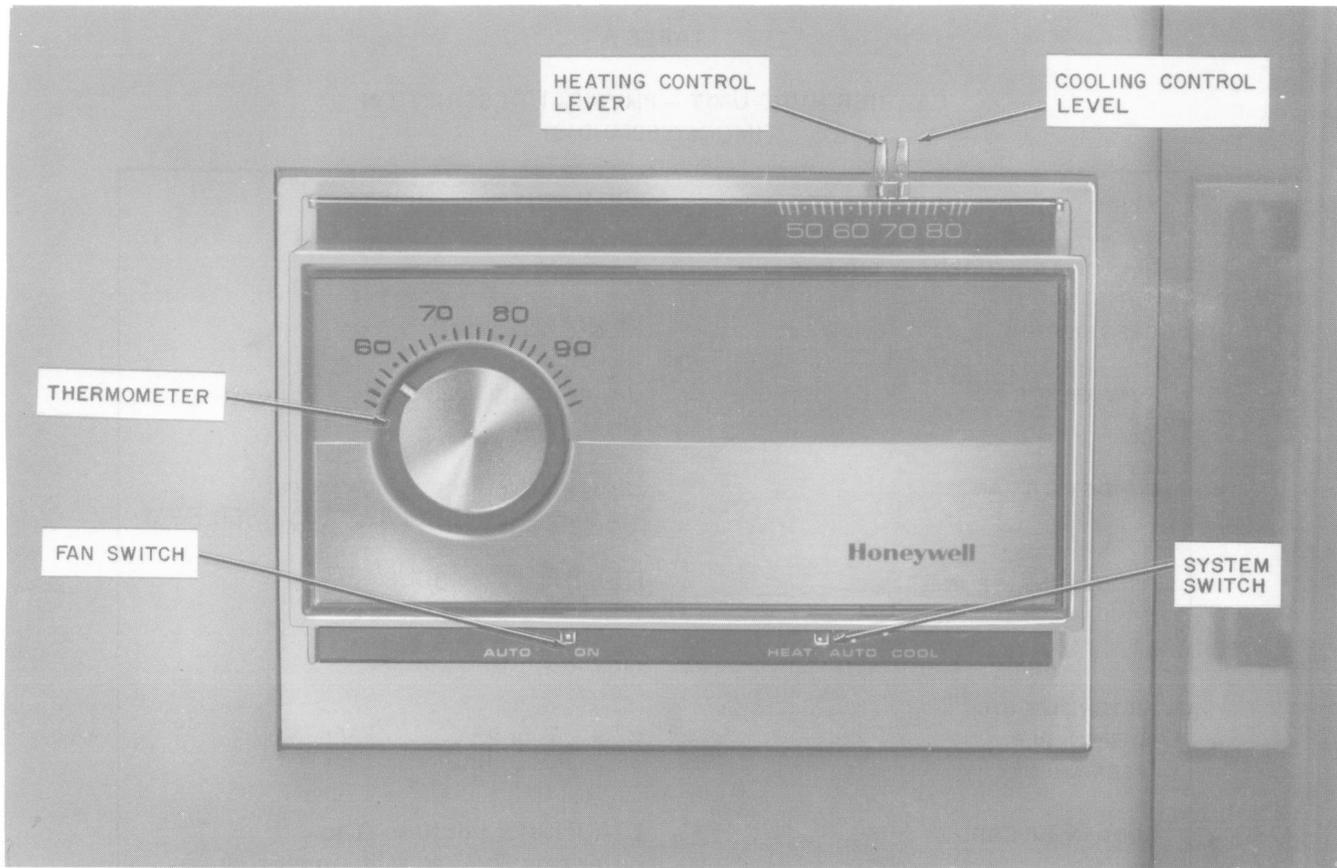

Fig. 2—Honeywell Thermostat Model T872
2.02 Two HVAC units supply the control module. Both units are controlled by a standard Honeywell* thermostat (Fig. 2). **No accessory electric heaters are used with these units.** The battery and switching module, switching module, and administration module are supplied by one air conditioning unit for each module. Each unit is individually controlled by a standard Honeywell thermostat.